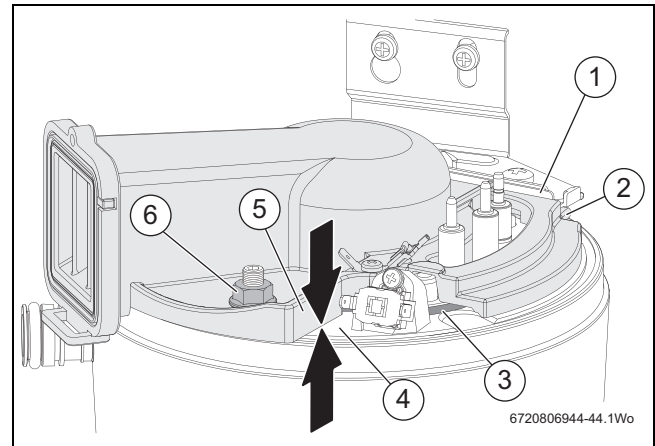

Fig. 85 Air/gas manifold clamping plate fitting
Refer to figure 85.
- ▶ Tighten the nut [6] until the underside face of the air/gas manifold clamping plate mates with the top of the heat exchanger [4] as indicated by the two arrows in figure 85.